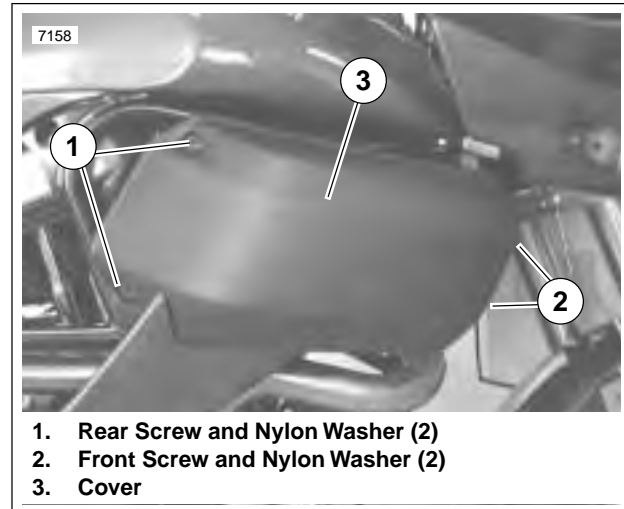
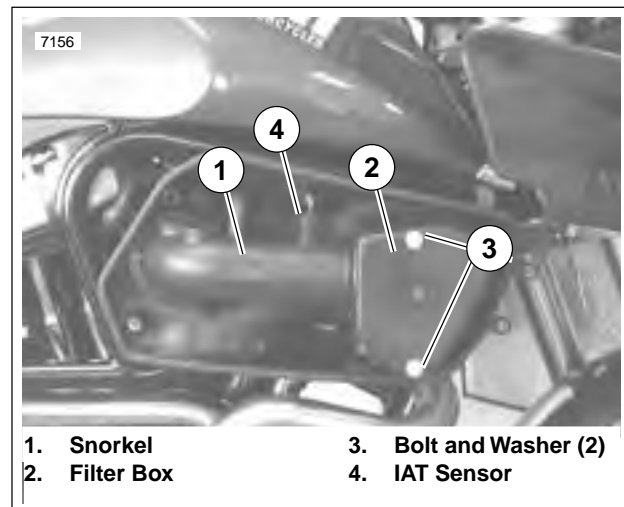
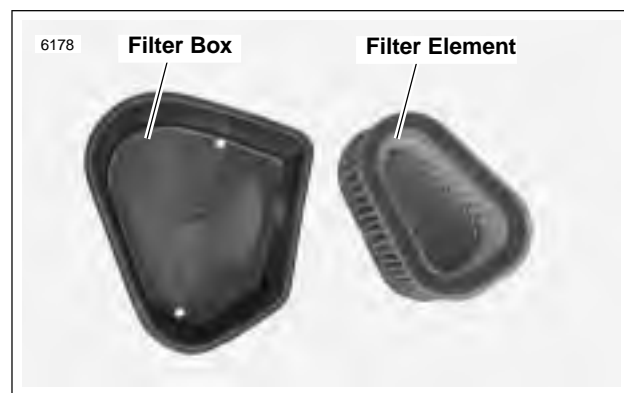

Figure 1-42. Air Cleaner Cover
Figure 1-43. Filter Box
Figure 1-44. Filter Element
1. See Figure 1-42. Remove both front screws and nylon washers (2).
3. Remove both rear screws and nylon washers (1). Remove cover (3) with attached fairing lower if present.
4. See Figure 1-43. Remove bolts and washers (3) from filter box (2). Slide filter box forward, away from snorkel (1).
5. See Figure 1-44. Remove the filter element (2) from filter box (1). Inspect and replace if necessary.
3. See Figure 1-44. Place filter element (2) in filter box (1). Attach filter box to snorkel.
5. Fasten filter box to backplate with bolts and washers (3). Tighten to 40-45 in-lbs (4.5-5.1 Nm)
6. See Figure 1-42. Place cover (3) over backplate assembly. Install both rear screws and nylon washers (1).
7. Install both front screws and nylon washers (2).